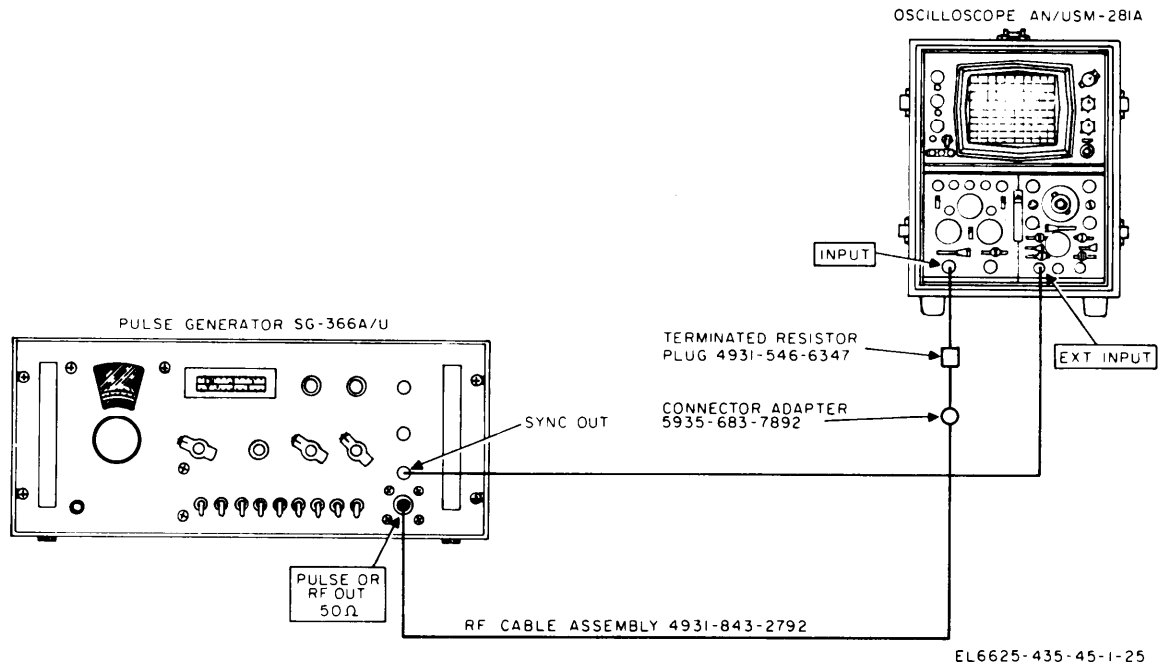

Figure 4-5. Video Pulse and Pulsed Rf Rise and Decay Tests, Equipment Setup.
- b. Test Connections and Materials. Connect the equipment as shown in figure 4-5.